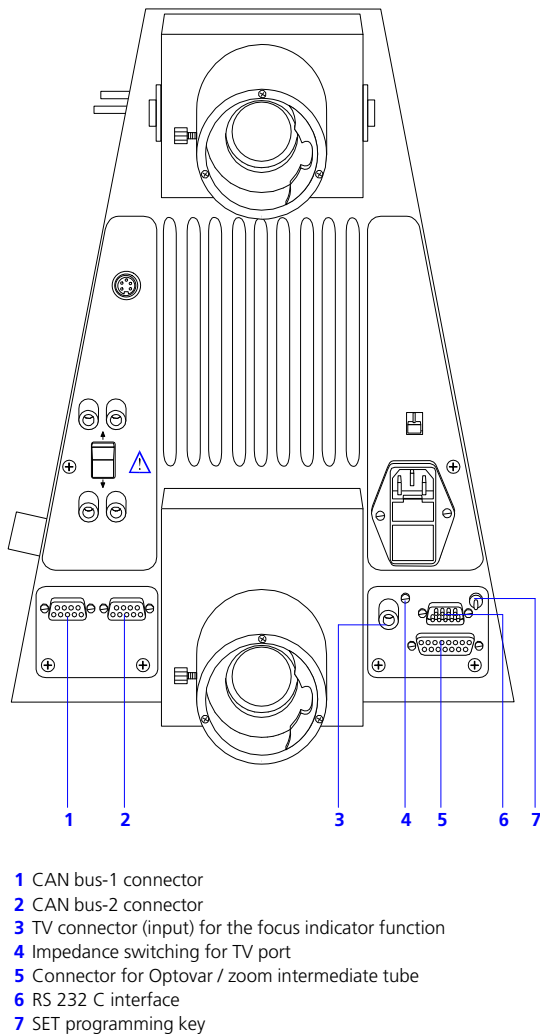

Fig. 11 Back of motorized stand
- Give SET key (in Fig. 11/7) a short press to store the setting.